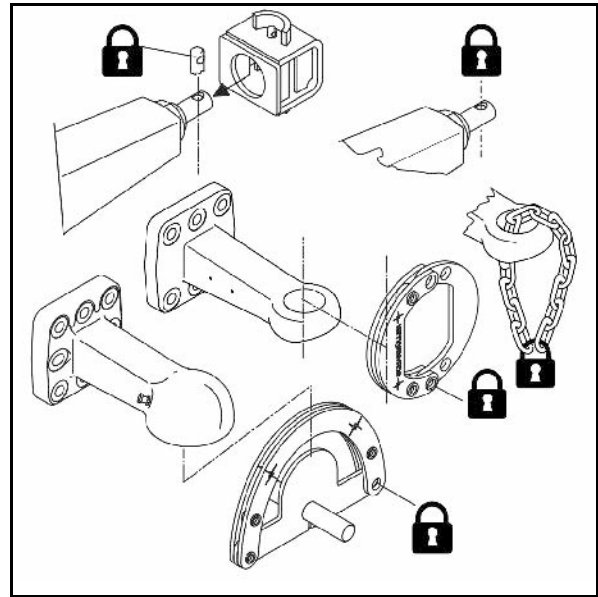

Fig. 37
1. Mount the holder tube (Fig. 37/1) with four-screws (Fig. 37/2) on the outside of the boom.
2. Screw two additional weights (Fig. 37/3) onto each holder tube (Fig. 37/4) and secure.